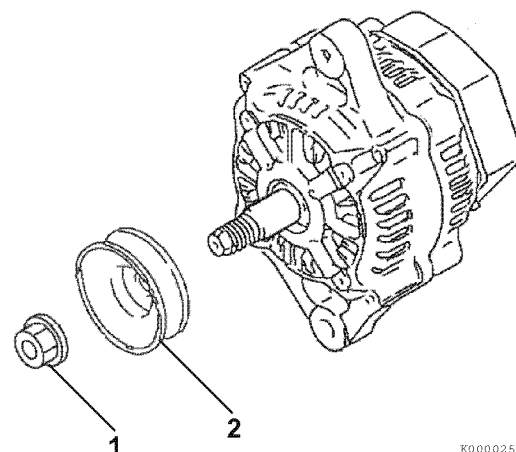

Figure 12-5
1. Remove the nut (1, Figure 12-5) from the shaft of the rotor assembly. Remove the pulley (2, Figure 12-5).